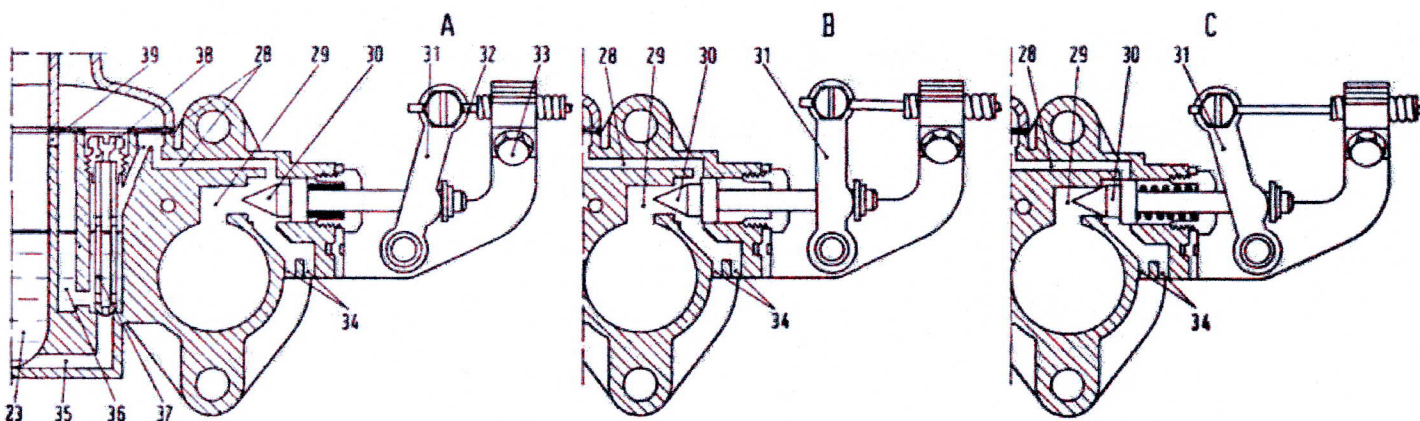

Fig. 42. - Diagrammatic section views of 26 OC Weber carburetor through the starting device.
Referring to the operation diagram fig. 42, the fuel from bowl (23) reaches starting jet (37) through duct (35).
By pulling the choke lever (31) to stroke end, valve (30) is lifted from its seat and brought to the «fully open» position (diagram « A », fig. 42). Under these conditions valve (30) uncovers both starting mixture ducts (28) and (29).
During this maneuver, valve (30) gradually blanks mixture duct orifice (28) so as to weaken the mixture while, by closing progressively duct (29), it also reduces little by little the amount of mixture delivered by carburetor (see diagram « B », fig. 42).
covers hole (29) and prevents the entrance of mixture (diagram « C », fig. 42).